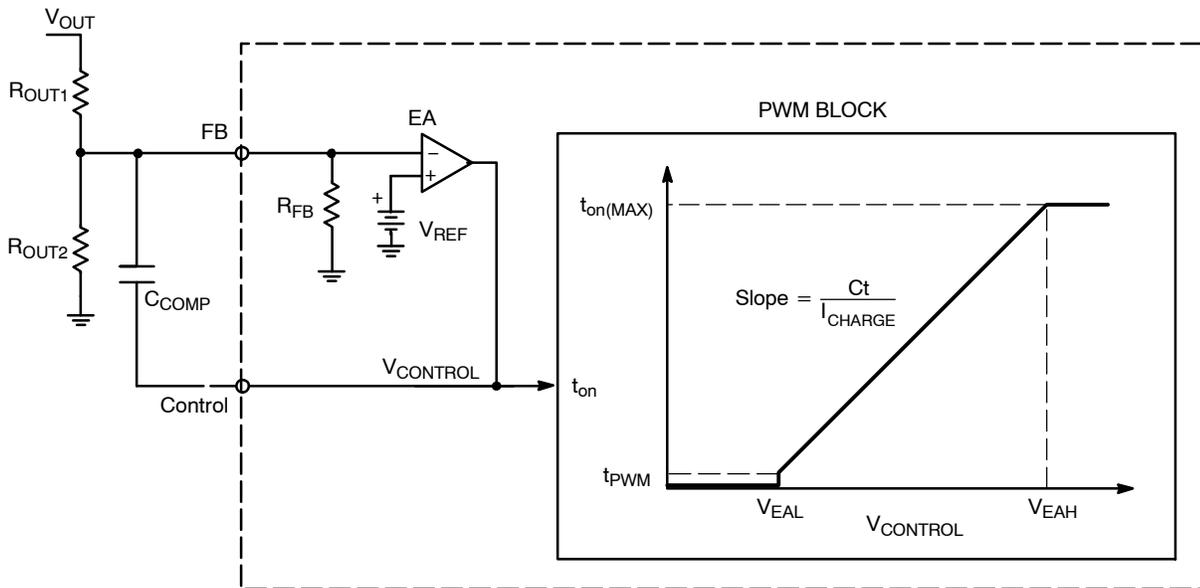

Figure 25. Error Amplifier and On Time Regulation Circuits
The NCP1607 is configured to regulate the boost output voltage based on its built in error amplifier (EA). The error amplifier’s negative terminal is pinned out to FB, the positive terminal is tied to a $2.5\text{ V} \pm 1.6\%$ reference, and the output is pinned out to Control (Figure 25).